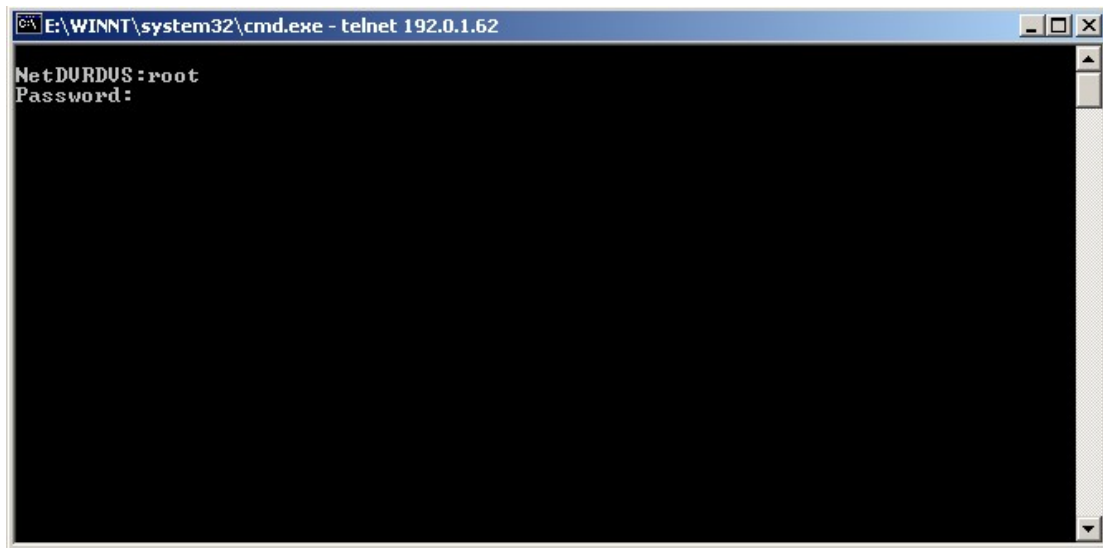

Fig. 3.1.17 Input the user's name of TELNET operation
Step 4: If the connection is failed, please check whether RJ45 connector is well connected, or check the network. If it is successfully connected, the login prompt “NetDVRDVS:” appears. Input user’s name “root” under the prompt and press “ENTER” as in Fig.3.1.17